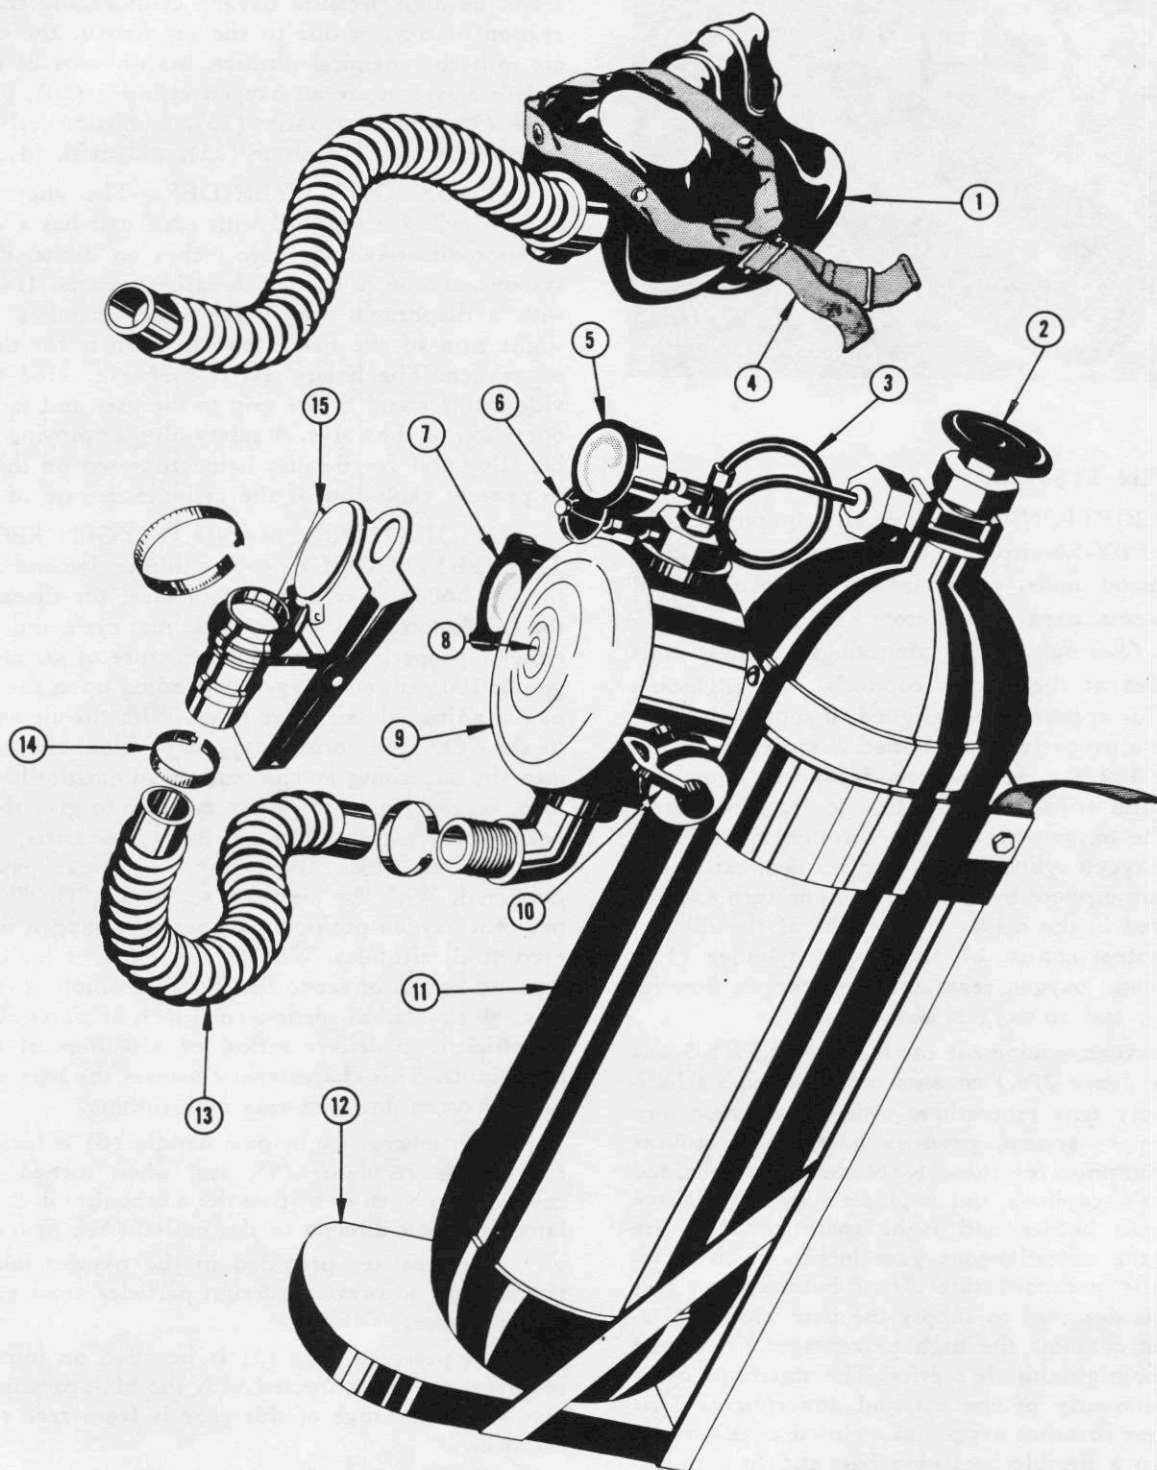

Figure 275—Portable Diluter-Demand Oxygen Equipment (PBY-5A Only)
a. DESCRIPTION.—The oxygen equipment carried in the PBY-5A airplane consists of three individual diluter-demand units, which have their own integral supply systems, oxygen regulators (9), and flow indicators (7). (See figure 275). Mountings for these units are provided at the pilot's, copilot's, and engineer's stations. This apparatus is designed to supply the user with either a properly proportioned mixture of air and oxygen or 100 per cent oxygen dependent upon the setting of the adjustable air valve lever. The wearer breathes the oxygen by inhaling through a mask (1) from the oxygen cylinder (11) and in turn, exhales to the outer atmosphere by means of a nonreturn exhaust valve located in the mask. Major units of the diluter-demand system consist of an oxygen cylinder (11), diluter-demand oxygen regulator (9), oxygen flow indicator (7), and an oxygen mask (1).
(1) OXYGEN CYLINDER.—The shatterproof oxygen cylinder supplied with each unit has a volume of approximately 295 cubic inches on diluter-demand systems, and 96 cu in. on rebreather systems. It is fitted with a diaphragm type valve which requires only a slight turn of the handwheel to open it for the flow of oxygen. The handwheel is rubber covered to provide a softer and firmer grip to the user and facilitates operation of the valve. A safety plug employing a fusible alloy and fragile disc is incorporated on the valve to prevent explosion of the cylinder in case of fire.
(2) DILUTER-DEMAND OXYGEN REGULATOR (PBY-5A ONLY).—The diluter-demand regulator (AN-6004-1) is designed to meet the demands of the inhalation phase of the breathing cycle and deliver either a properly proportioned mixture of air and oxygen or 100 per cent oxygen depending upon the setting of the adjustable air valve lever. With the air valve set to the "ON" or normal oxygen position, air is drawn into the breathing system and is automatically mixed with oxygen from the supply cylinder to give the total needed oxygen required up to approximately 30,000 feet, beyond which 100 per cent cylinder oxygen is delivered. With the air valve set to the "OFF" or 100 per cent oxygen position, 100 per cent oxygen is delivered at all altitudes. With the air valve of the diluter-demand regulator set to the "ON" position, a relatively small inhalation suction (one inch of water suction) is sufficient to deliver a flow of 150 liters of oxygen per minute. This characteristic assures the user an adequate oxygen flow and ease of breathing.
An emergency by-pass handle (6) is located on top of the regulator (9), and when turned "ON," causes the oxygen to by-pass the mechanism in the regulator and flow directly to the outlet. (See figure 275.)
to give visual indication (blinking) of the positive flow of oxygen through the diluter-demand regulator (9). (See figure 275.) The flow indicator is attached directly to the diluter-demand regulator by means of a threaded boss on the regulator case. This flow indicator is omitted on some units.
(4) OXYGEN MASK.—On PBV-5A airplanes (See figure 275.), the oxygen mask (1) consists of a molded gray rubber facepiece which fits snugly over the nose and mouth of the wearer, and a kink-proof flexible rubber tube which is connected by the quick-disconnect coupling (15) to the breathing tube. The mask incorporates a nonreturn exhaust valve for the exhalation phase of the breathing cycle. The mask also contains a pocket which holds a microphone for use in the interphone system.
(1) To assemble PBY-5A oxygen equipment: (See figure 275.)
(1) On PBY-5A airplanes, check the diluter-demand equipment as follows: (See figure 275.)
(2) To use oxygen unit on PB-5A airplanes: (See figure 275.)